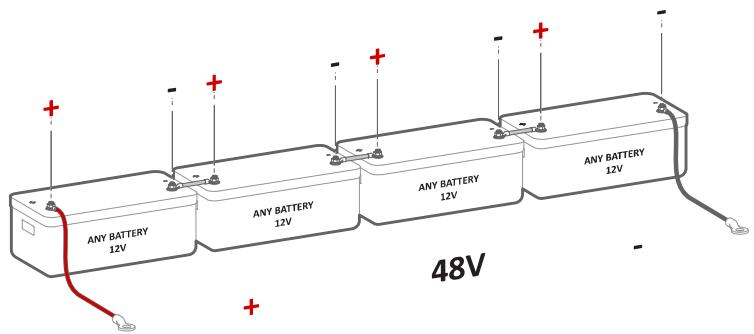

Figure 5b: 12Vdc batteries in series connection
⚠ MIDNITE MN 15-12KW-AIO is a **48V nominal system. DO NOT connect the inverter to any other battery configuration. If you use 12V batteries, you **MUST NOT** exceed four (4) batteries in series, as shown in Figure 5b. The inverter can work with any battery chemistry as long as it remains within the range of **40Vdc to 64Vdc**.**